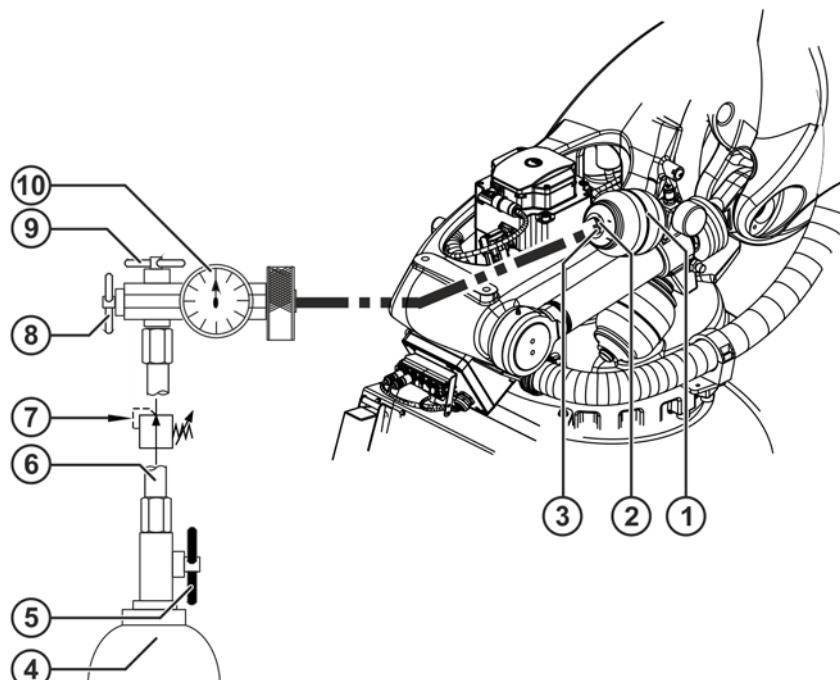

Fig. 10-5: Setting the gas pressure
7. Remove the protective caps (>>>> Fig. 10-5) from the diaphragm accumulator and unscrew the Allen screw slightly (without a torque wrench, by a quarter of a turn at the most).